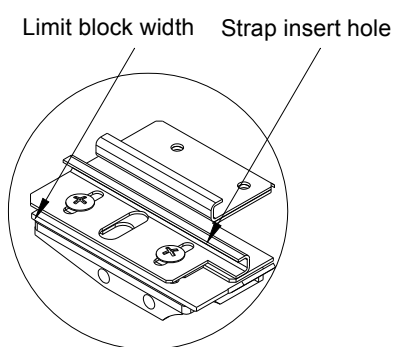
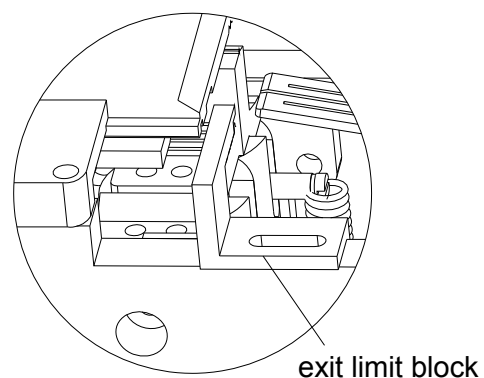

FIG 3-7
FIG 3-8
④ Width adjustment: This machine has a special design, 5mm-15mm. All can be used without changing any parts. If you need to adjust the strap insert hole, the spacing block of outputting straps (refer to FIG 3-7) and the spacing block's width of the outputting bottom plate (refer to FIG 3-8). The machine has been set for 12mm straps as standard at the factory.